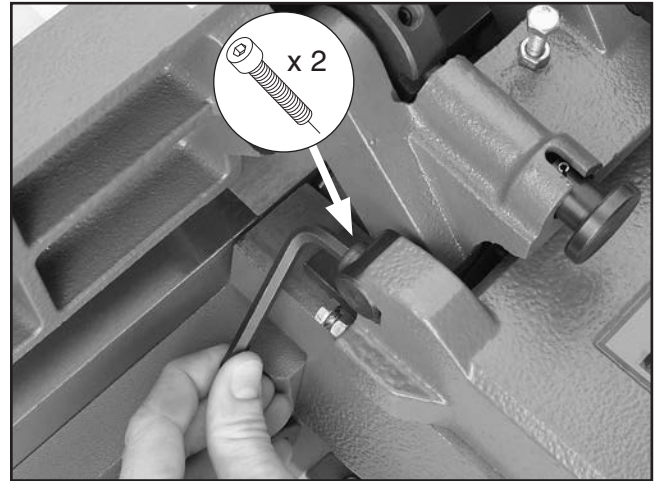

Figure 21. Installing fence.
23. Use the two pre-installed cap screws on fence carriage to install fence, as shown in **Figure 21**.